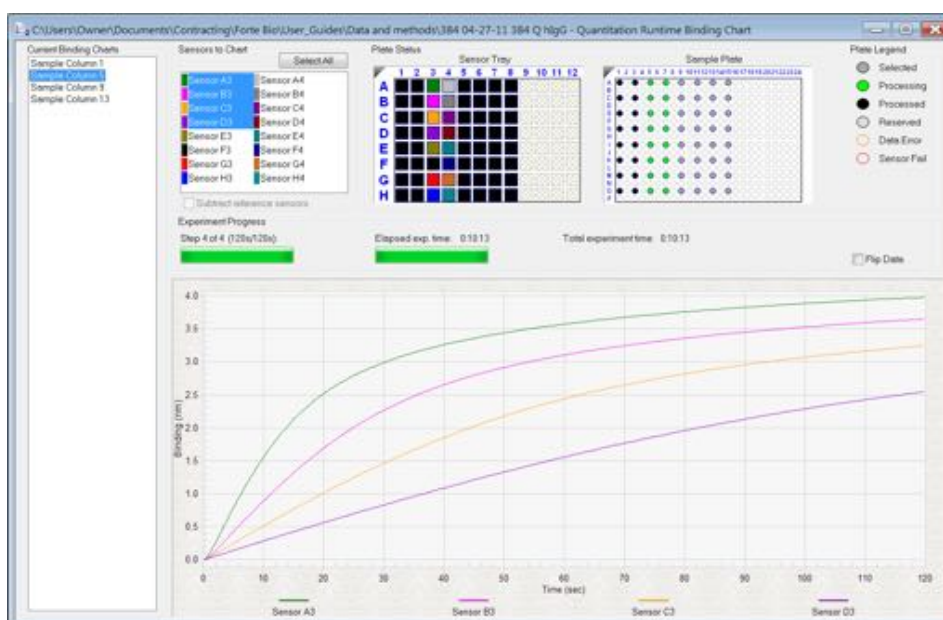

Figure 7-70: Runtime Binding Chart Window
If the **Open runtime charts automatically** check box is selected in the Run Experiment window, the Runtime Binding Charts are automatically displayed when data acquisition starts (see Figure 7-70). The **Runtime Binding Chart** window displays the current step number, time remaining for the current step, (total) elapsed experimental time, and total experiment time.
2. Select a sub-set of sensors for a displayed column in the **Sensors to Chart** box (see Figure 7-70).